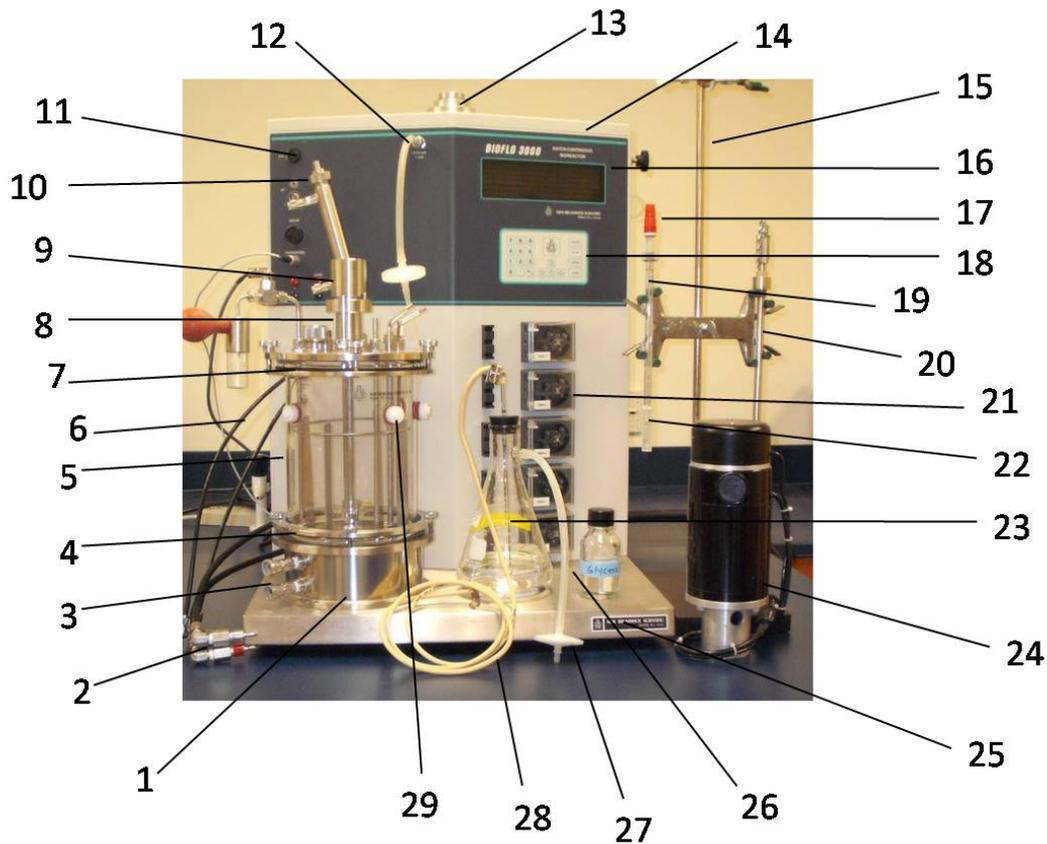

Figure 1: BioFlo 3000 Vessel and Cabinet
- 9.1. Figure 1: BioFlo 3000 Vessel and Cabinet